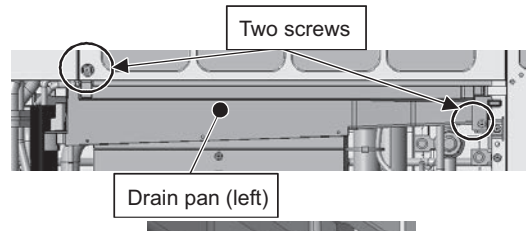

Figure 4
- (3) Remove the left drain pan by unscrewing the two screws. (See Figure 4.)